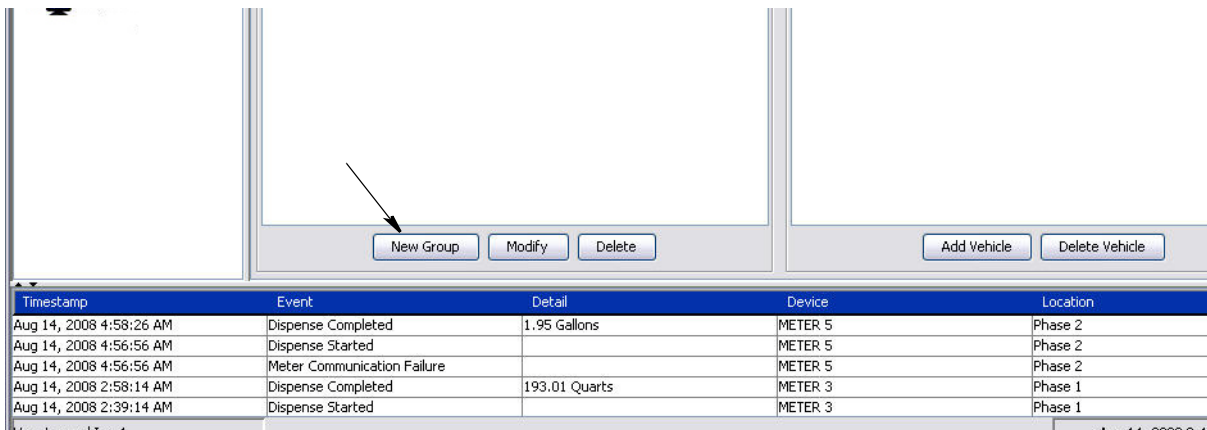

FIG. 168
2. To create a new Vehicle Group, click the New Group button (FIG. 168).